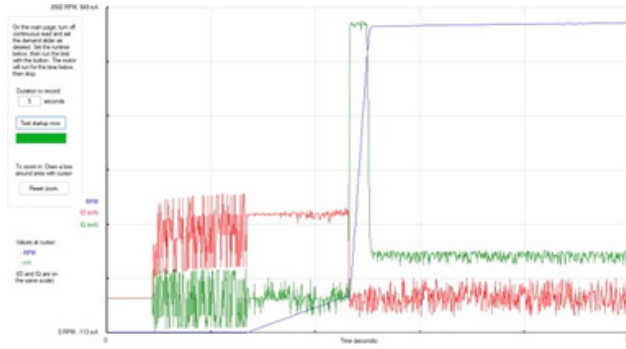

Figure 20:  $K_p$  Instabilities—GUI Plot (left) and Phase Current Plot (right)
- When  $K_p$  is too high, unstable PI controller action is observed in the D current, and oscillations around the current reference are observed on the phase current, as shown for  $K_p = 4$ ,  $K_i = 7$  in Figure 20.